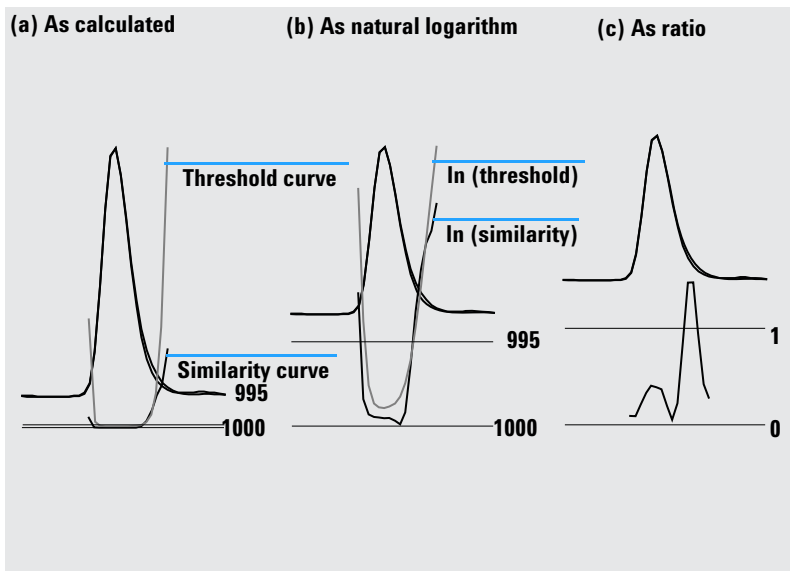

Figure 10 Threshold and Similarity Curves,
- 1 Without any transformation, see Figure 10 on page 37 (a);
- 2 As the natural logarithm, $\ln$, see Figure 10 on page 37 (b), with the advantage of more detail for the peak apex in the lower part of the graphic;
- 3 As a ratio: $\text{ratio} = \frac{1000 - \text{similarity}}{1000 - \text{threshold}}$, see Figure 10 on page 37 (c).